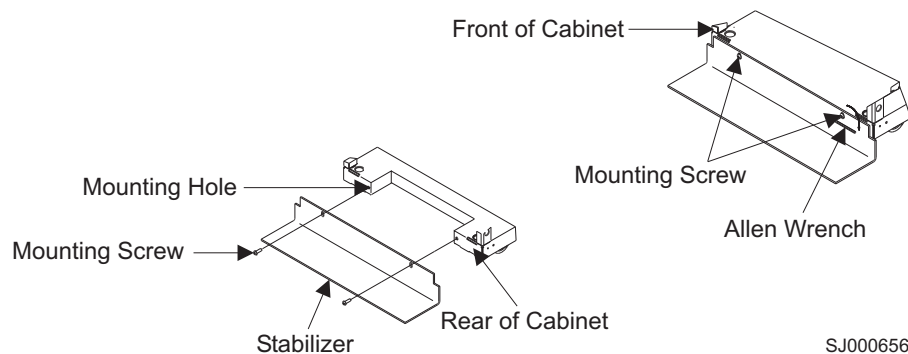

Figure 85. Stabilizers
1. Align the slots in the stabilizer with the mounting holes at the bottom front of the rack. See Figure 85.